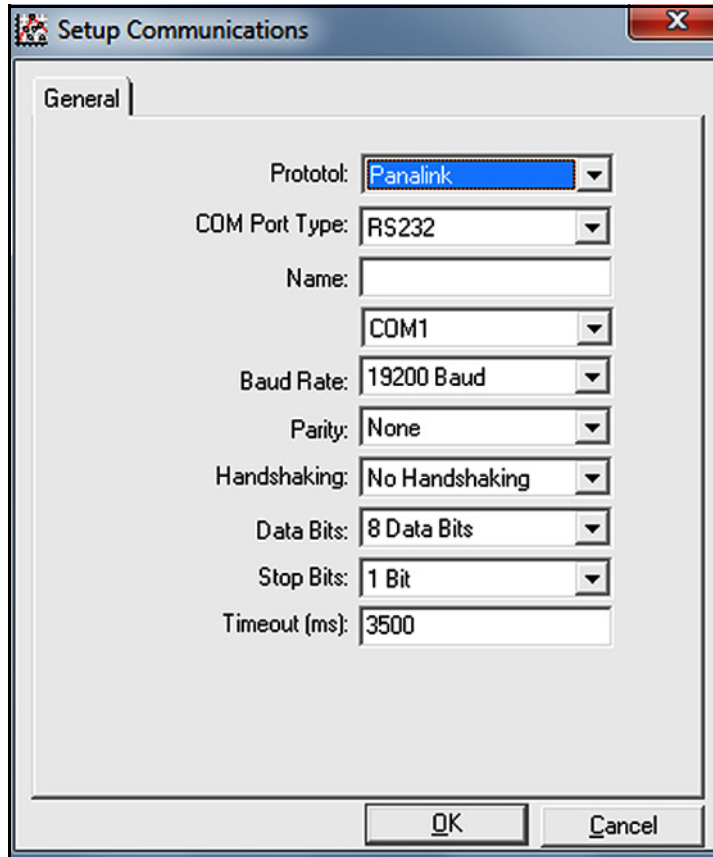

Figure 31: Setup Communications Screen
- Click “*Communications Port*” option to select it (see *Figure 31* on page 30). The dialog box shown in *Figure 31* below opens, with “*Untitled/Empty*” as the default “*Name*.”
The dialog box in *Figure 31* above permits the user to name the communication port (the name “Comport” is used for this example) and to set up all of its parameters.
5. After all of the communications port parameters have been set, click [OK] button (see Figure 31 on page 30).